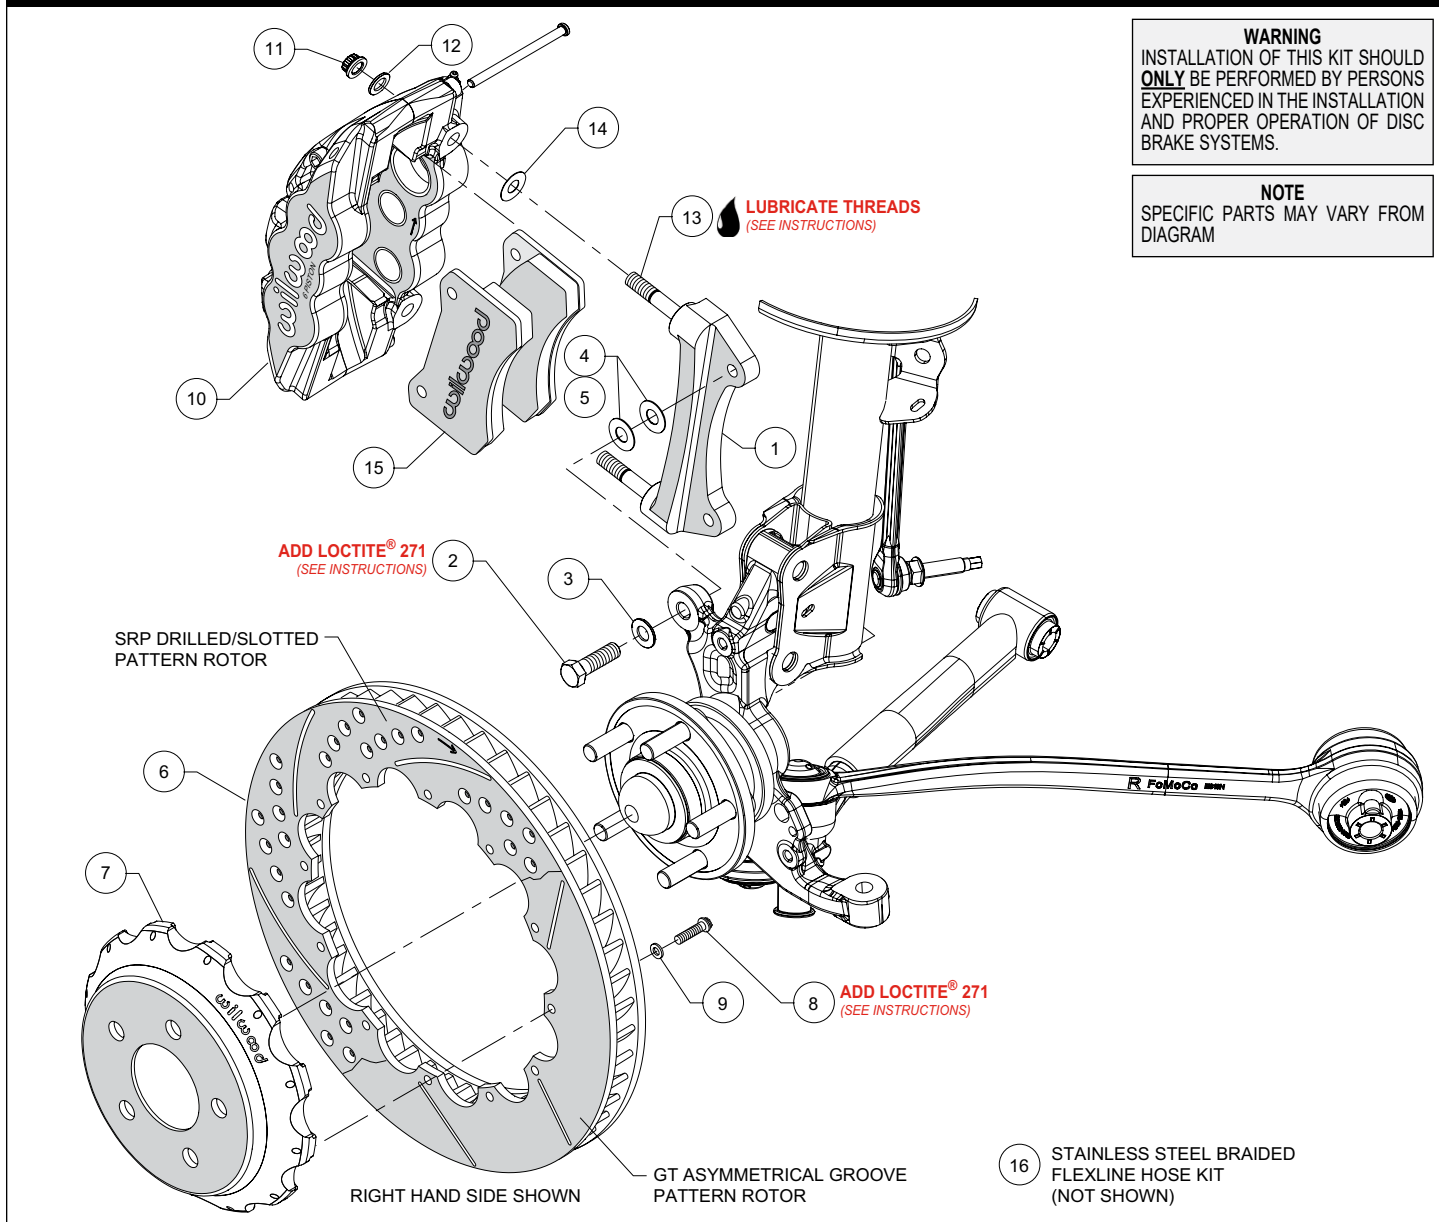
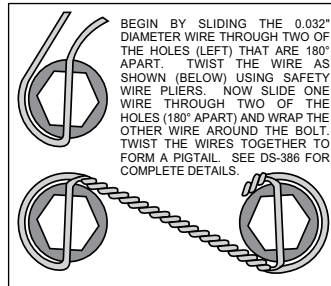

Figure 1. Typical Installation Configuration
Figure 3. Safety Wire Diagram
Assembly Instructions (numbers in parenthesis refer to the parts list and Figure 1 on the preceding pages):
- The caliper mount bracket (1) should initially be installed with clean, dry threads on the mounting bolts. Orient the bracket, as shown in Figure 1 and Photo 1, and install using bolts (2) and washers (3). Initially place two .033" thick shims (4) on each bolt between the bracket and upright, Figure 1. Temporarily tighten the mounting bolts. **NOTE: The bracket must fit squarely against the mount bosses on the upright.** Inspect for interference from casting irregularities, machining ridges, burrs, etc. Later, after the caliper alignment has been checked, the mount bolts will be secured using red *Loctite*® 271.
- Orient the rotor (6) and the hat (7) as shown in Figure 1 and Photo 2. Attach rotor to hat using bolts (8) and washers (9). Apply red *Loctite*® 271 to the bolt threads and torque to 155 in-lb using a criss-cross pattern. For an added measure of security, the bolts may be safety wired using standard 0.032 inch diameter stainless steel safety wire as shown in Figure 3. Refer to Wilwood's data sheet DS-386 (available at www.wilwood.com/Pdf/DataSheets/ds386.pdf) for complete safety wire installation instructions.
- **NOTE: This kit contains distinct right and left hand calipers that must be mounted in a specific direction, as described below.** Lubricate the caliper mounting studs (13) with lightweight oil. Initially place one .030" thick shim (14) on each stud between the caliper and the bracket, as shown in Figure 1 and Photo 4. Mount the caliper (10) onto the bracket (1) using lock nuts (11) and washers (12), Figure 1. Temporarily tighten the lock nuts. Ensure that the caliper is mounted so the largest pistons are at the rotor exit end of the caliper, in relation to the direction of the rotor. View the rotor through the top opening of the caliper. The rotor should be centered in the caliper, Photo 5. If not, adjust by adding or subtracting shims (4 and/or 5) between the bracket and the upright. Always use the same amount of shims on each of the two mounting bolts. Once the caliper alignment is correct, remove the bracket mounting bolts one at a time, apply red *Loctite*® 271 to the threads, and torque to 60 ft-lbs.
- Remove the two pad retaining pins from the caliper (10) by carefully popping out the pin retaining clips and sliding out the pins. Insert the brake pads (15) into the caliper from the bottom, Figure 1 and Photo 6. With the friction material facing the rotor, secure the brake pads in place with the pad retaining pins and clips, Photo 7. Reinstall the caliper onto the caliper mounting bracket and temporarily tighten the lock nuts. Check that the top of the brake pad is flush with the outside diameter of the rotor, Photo 8. If not, adjust by adding or subtracting shims (14) between the caliper and the bracket. After the caliper pad height is set, torque the caliper lock nuts (11) to 47 ft-lb.